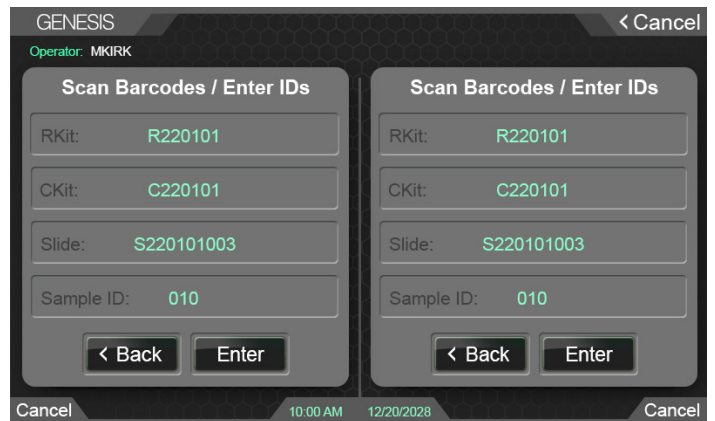

Fig. 21. Populate data for run.
- Populate the data entry fields recording the reagents, consumables and slide identifiers using the Barcode Scanner (Figure 21).